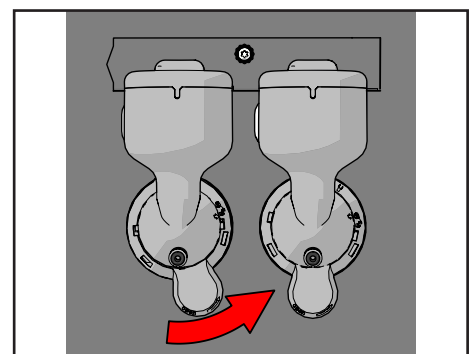

Figure 36.
8. Turn the mixer ring counter-clockwise to the unlock position (see Figure 36).